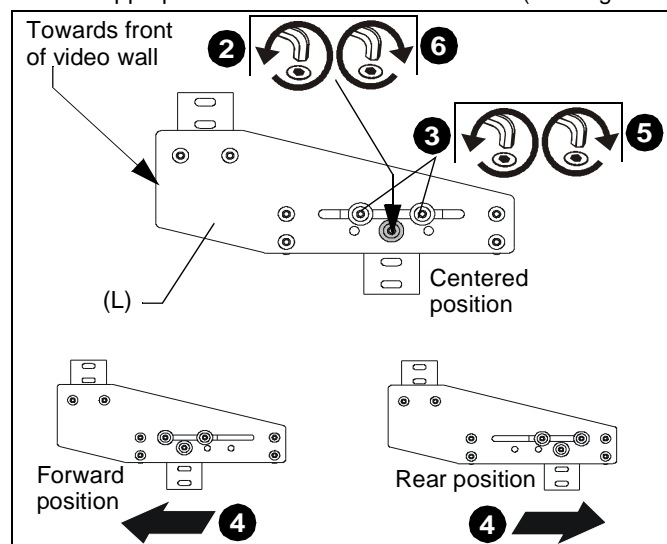

Figure 1
- Loosen and remove fastener and washer from center hole on each side of array offset (L). (See Figure 1)
- Loosen two outside fasteners on each side of array offset (L).
- Slide offset to appropriate position. (See Figure 1)
- Install and tighten fastener with washer (removed in Step 2) into appropriate hole on each side of offset. (See Figure 1)